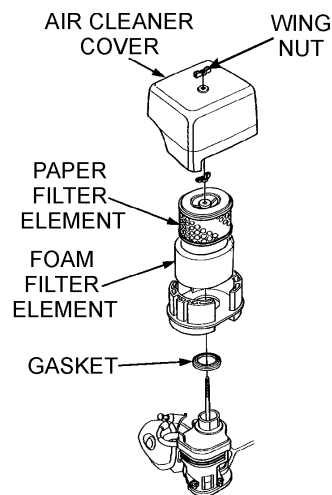

Figure 21. Engine Air Cleaner
1. Remove the air cleaner cover and foam filter element as shown in Figure 21.
2. Tap the paper filter element (See Figure 21) several times on a hard surface to remove dirt, or blow compressed air [not exceeding 30 psi (207 kPa, 2.1 kgf/cm2)] through the filter element from the air cleaner case side. **NEVER** brush off dirt. Brushing will force dirt into the fibers. Replace the paper filter element if it is excessively dirty.